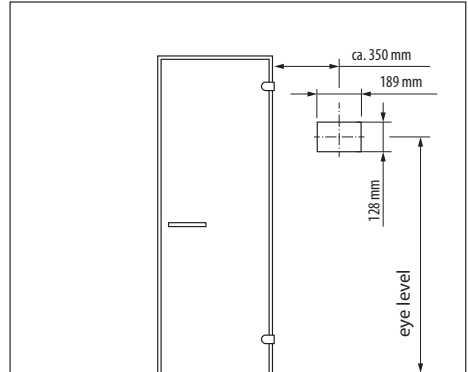

Fig. 5
2. Make an installation cut-out in the wall with dimensions 128 mm height x 189 mm width (fig. 5 and 7).